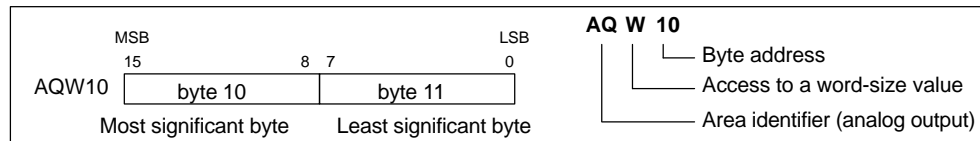

Figure A-4 Accessing an Analog Output
The S7-200 converts a word-length (16-bit) digital value into a current or voltage, proportional to the digital value (such as for a current or voltage). You write these values by the area identifier (AQ), size of the data (W), and the starting byte address. Since analog outputs are words and always start on even-number bytes (such as 0, 2, or 4), you write them with even-number byte addresses (such as AQW0, AQW2, or AQW4), as shown in Figure A-4. Analog output values are write-only values.